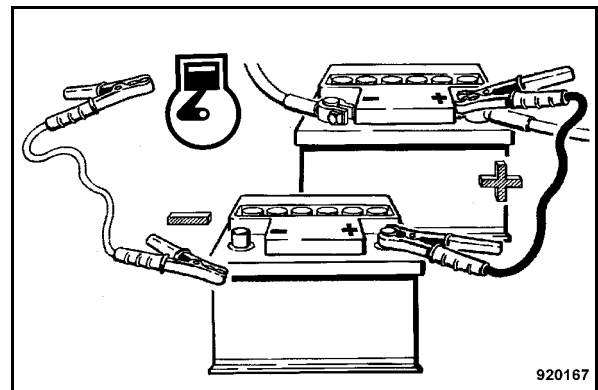

Fig. 52
- Then connect the ground cable first to the minus pole of the current supplying auxiliary battery and then to engine or chassis ground, as far away from the battery as possible (Fig. 52).